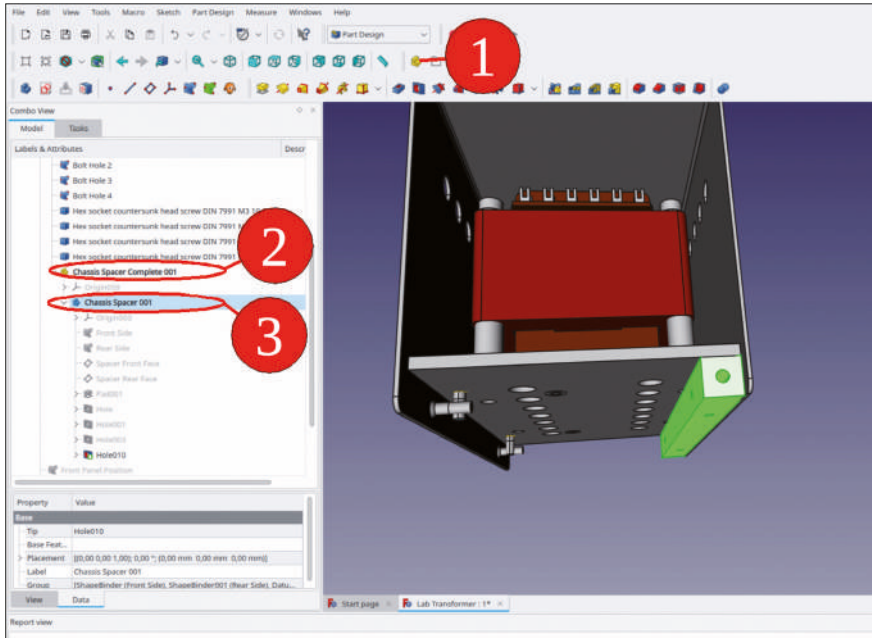

Figure 9-151
6. Double-click the body 'Chassis Spacer 001' to activate it (Figure 9-151) and set it as the destination for new shape binders.